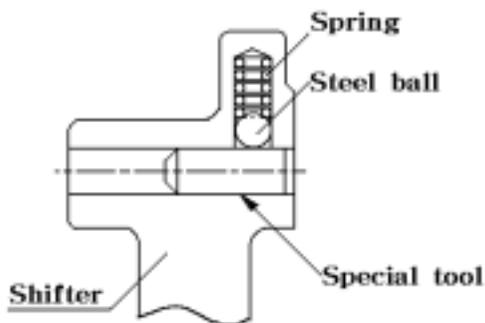

Fig.5-56
(3) Reassembly
c. When installing the shifter on the shifter stay,Use the special tool as shown in Fig.5-56